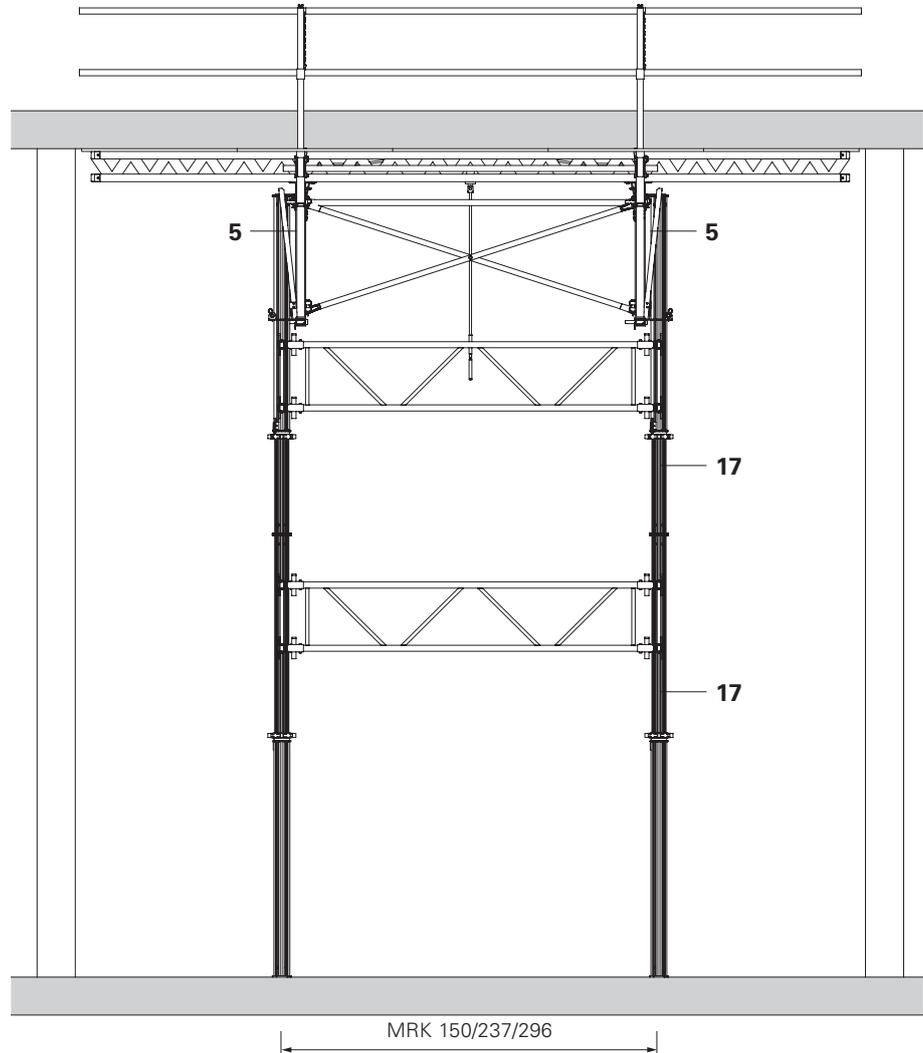

Fig. A7.09
1. Erect the MULTIPROP towers (17) according to the Assembly Instructions and then place in position.
2. Connect SKYTABLE table with the towers, see Assembly Instructions for MULTIPROP. (Fig. A7.09)